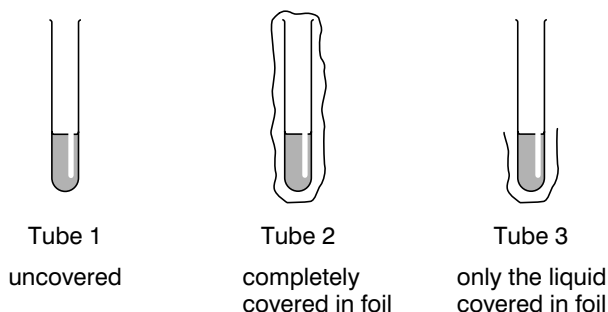

Figure 1
- 3 Wrap aluminium foil around two of the tubes as shown in Figure 1. Stand the three tubes side by side in a test-tube rack.